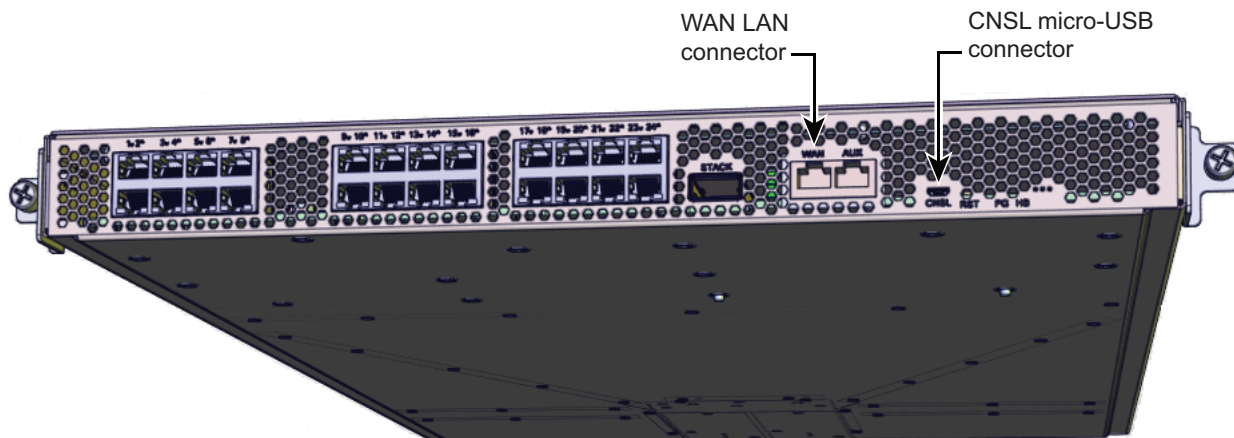

Figure 1-1 SGI UV 300 RMC Front Panel Connections Example
- A LAN connection to the RJ-45 **WAN** port on the RMC node, (see Figure 1-1).
- A USB-to-micro-USB serial connection to the “Console” port (see **CNSL** in Figure 1-1) on the RMC front panel example.
- An in-rack or portable system console can be directly connected to the RMC micro-USB connect port, (labeled **CNSL**- see Figure 1-1 on page 4). This requires connecting from a laptop or workstation that is physically located near the system.
Note: Both options require the use of the RMC’s micro-USB serial port, refer to Figure 1-1 on page 4.